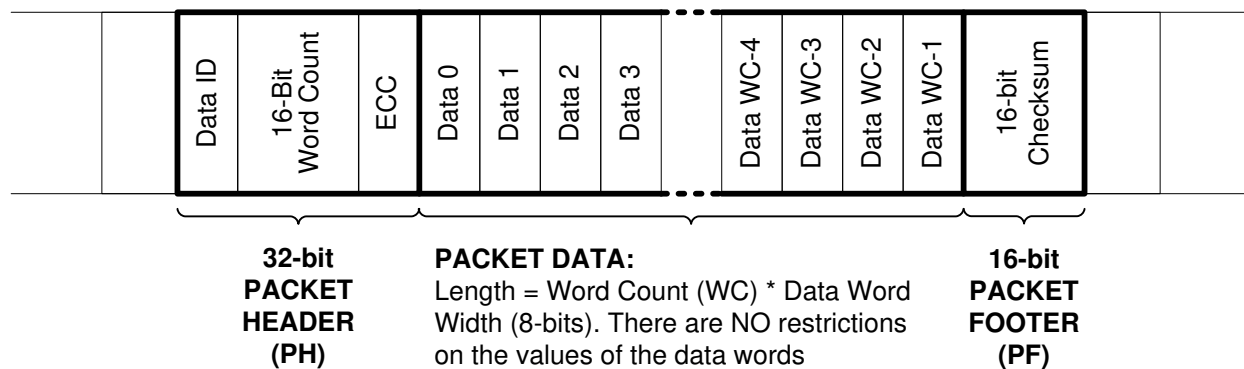

Figure 7-9. CSI-2 Long Packet Structure
A long packet consists of three elements: a 32-bit packet header (PH), an application-specific data payload with a variable number of 8-bit data words, and a 16-bit packet footer (PF). The packet header is further composed of three elements: an 8-bit data identifier, a 16-bit word count field, and an 8-bit ECC. The packet footer has one element, a 16-bit checksum. Figure 7-9 shows the structure of a long packet.